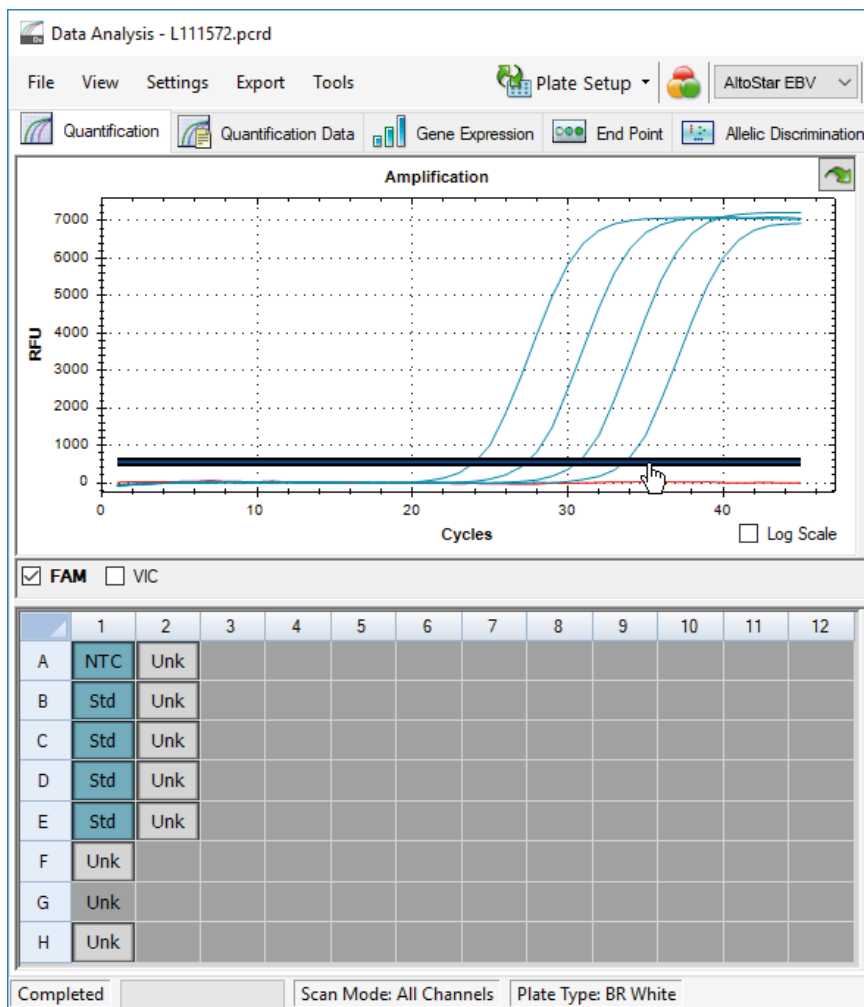

Figure 10: Data Analysis window: setting the FAM™ threshold
5. At the left side of the Data Analysis window untick the **VIC** checkbox and tick the **FAM** checkbox for the detection channel of the EBV target (see figure 10).
6. Select only the wells containing the NTC and the QS in the plate view of the Data Analysis window (see figure 10).
7. Drag the threshold well above the signal of the NTC into the exponential area of the QS signals (see figure 10).